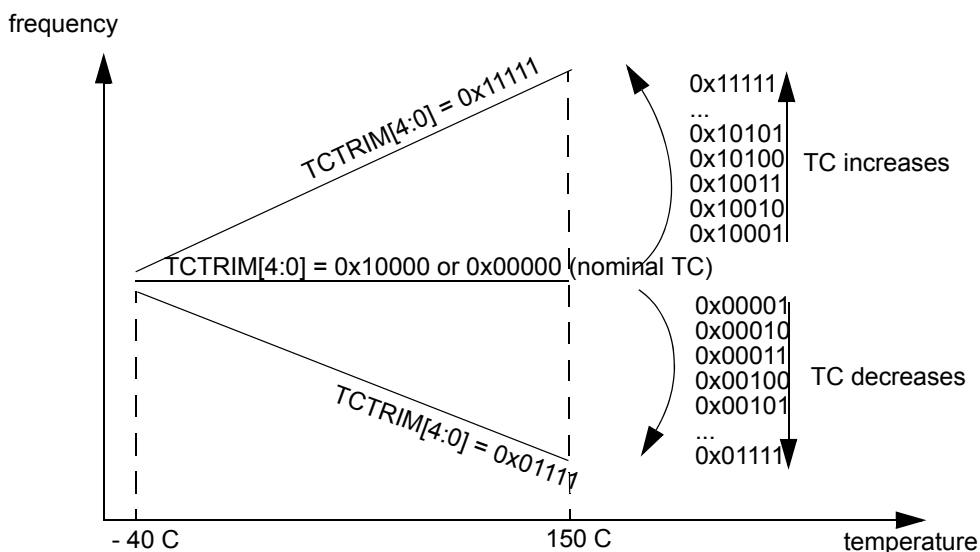

Figure 23. Influence of TCTRIM[4:0] on the temperature coefficient
| 15-11 TCTRIM[4:0] | IRC1M temperature coefficient Trim Bits Trim bits for the temperature coefficient (TC) of the IRC1M frequency. Table shows the influence of the bits TCTRIM[4:0] on the relationship between frequency and temperature. Figure 23 shows an approximate TC variation, relative to the nominal TC of the IRC1M (i.e. for TCTRIM[4:0] = 0x00000 or 0x10000). |
The frequency is not necessarily linear with the temperature (in most cases it will not be). Figure 23 is meant only to give the direction (positive or negative) of the variation of the TC, relative to the nominal TC.